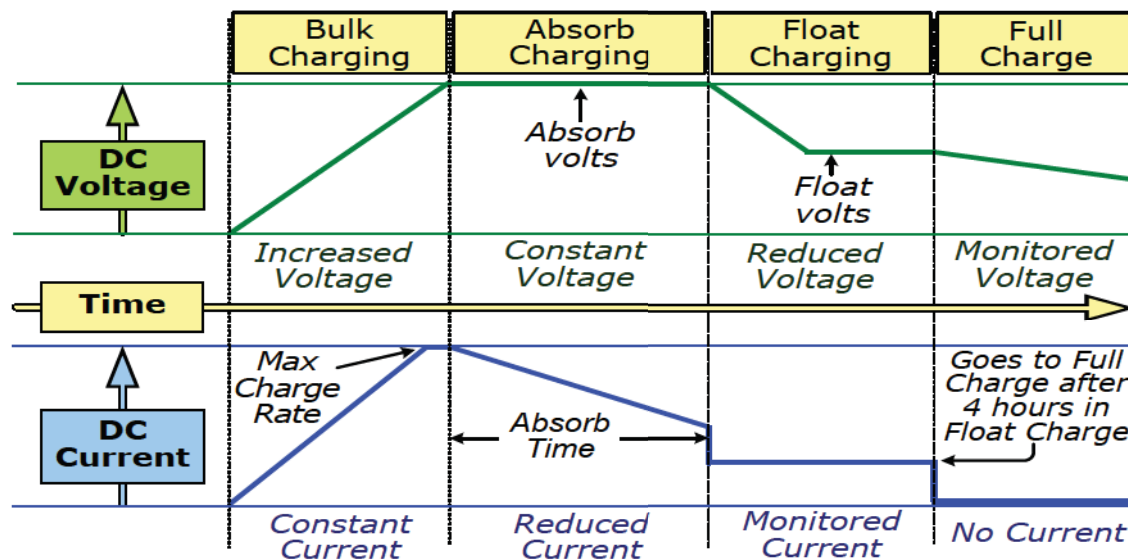

Figure 3-3, Automatic 4-Stage Charging Graph
The MSH-M Series' multi-stage charger can use up to five different charging stages to help keep the batteries healthy. The five stages include an automatic 4-stage charging process (see Figure 3-3): Bulk, Absorb, Float, and Full Charge; and a manual Equalization (EQ) charge stage. The automatic 4-stage charge process provides complete recharging and monitoring of the batteries without damage due to overcharging. The EQ stage (requires a remote display to enable) is used to stir up stratified electrolyte and to reverse any battery plate sulfation that may have occurred.